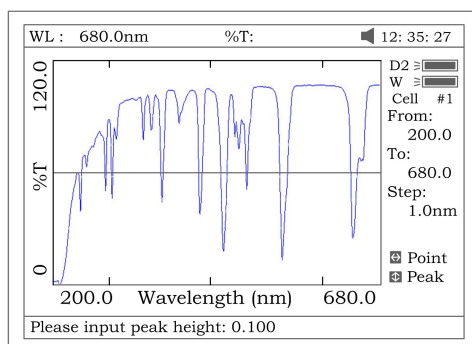
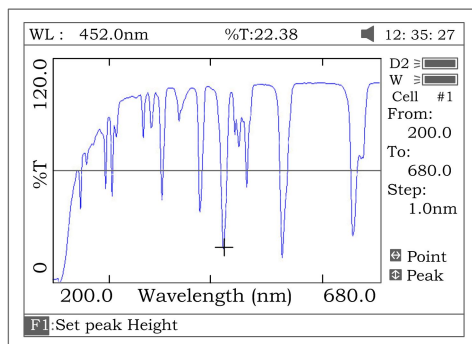

Fig 50
Fig 51
- 1) **Peak to peak**, press **F1** to set “peak height” and input value by pressing the numeric keypad (Fig 50). Press **^** to search the peak from left to right and press **v** to search from right to left. The value of every peak found will be displayed on the screen one at a time (Fig 51).